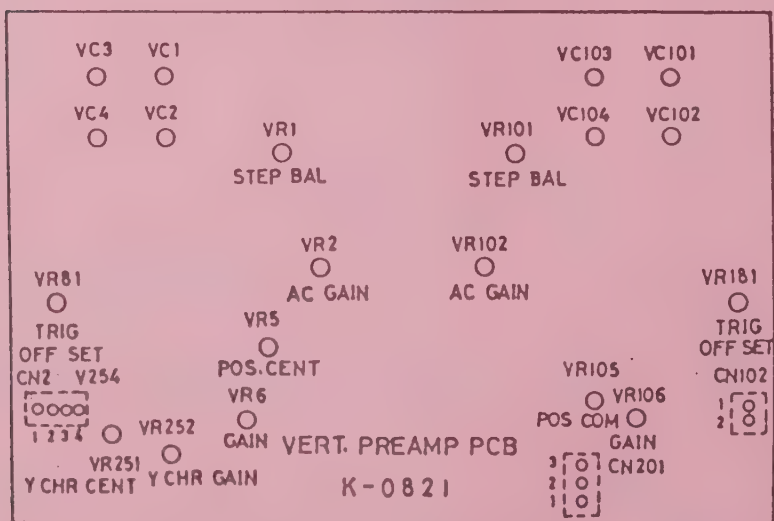
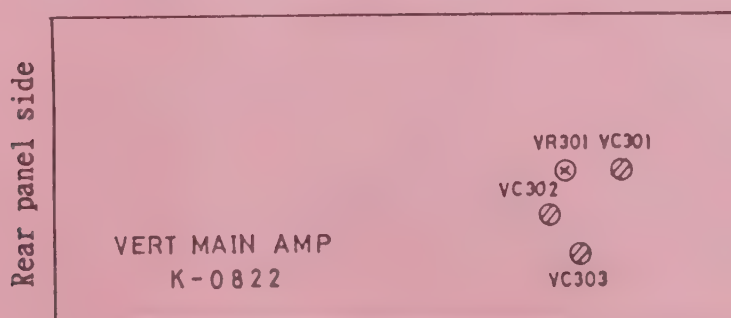

Fig. 4. Location of Vertical Adjustments (Pre-amplifier)
Fig. 5. Location of Vertical Adjustments (Main Amplifier)
Short-circuit pin Nos. 1 and 3 of CN201 (Fig. 4) and rotate VR301 (Fig. 5) to center the trace on the scale.
If the trace changes position when "VOLTS/DIV" is turned, adjust by turning VR1 for CH1 and VR101 for CH2 (Fig. 4).
Turn the "↑↓ POSITION" knob halfway and center the trace on the CRT by turning VR5 for CH1 and VR105 for CH2 (Fig. 4).
Set "SEC/DIV" to 1ms/DIV, "VOLTS/DIV" to 5mV/DIV and "AC GND DC" to DC, apply a 1kHz square wave and set to 4 div. amplitude. Then, turn VR2 to align CH1 and VR102 to align CH2 (Fig. 4) so that the square wave becomes the continuous line in Fig. 3.
- b. Turn VR6 to adjust CH1 and VR106 to adjust CH2 (Fig. 4) so that the amplitude of the square wave is 4 div.
- b. Turn the following phase compensating trimmer to adjust the waveform. (Fig. 4).
- c. Turn the following input capacitance compensating trimmer to correct the waveform (Fig. 4).
- c. Flatten the square wave by turning VC303 (Fig. 5).
- e. Adjust the overshoot with VC301 and VC302 (Fig. 5).
- a. Connect the probe of another oscilloscope to Pin No. 1 on the CN2 (Fig. 4) "AC GND DC" should be set to GND 10 mV/div.
- b. Center the trace on the CRT screen, switch "AC GND DC" to DC, turn VR81 by the amount of displacement and center it on the scale (Fig. 4).
- c. As for CH2, connect to Pin No. 1 of the CN102 and adjust VR181 (Fig. 4).
Set the MODE to CH1, VOLTS/DIV to 0.1/DIV and cursor to $\Delta V1$. Turn the REF knob to set the cursor at the uppermost line. Next, turn the Δ knob to set the cursor near the lower most line where $\Delta V1$ is at -0.800V. Next, adjust VR252 (Fig. 4) so that there are 8 divisions between the two cursors.
Under conditions set forth in Step 10 above, adjust VR251 (Fig. 4), so that two cursors are on the two lines, upper and lower.